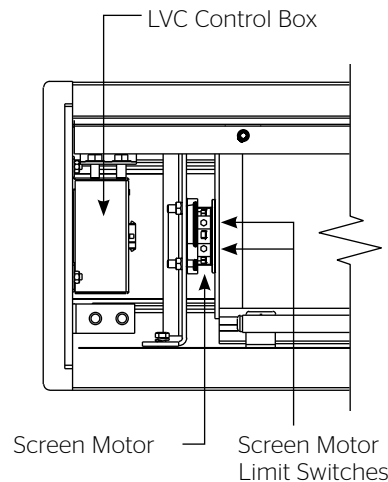

Figure 2
- Remove the square peg bracket from the motor end of the roller assembly (Figure 2).
- Complete electrical hook-up by snapping motor 1/3 wire connectors into case connectors (Figure 2).